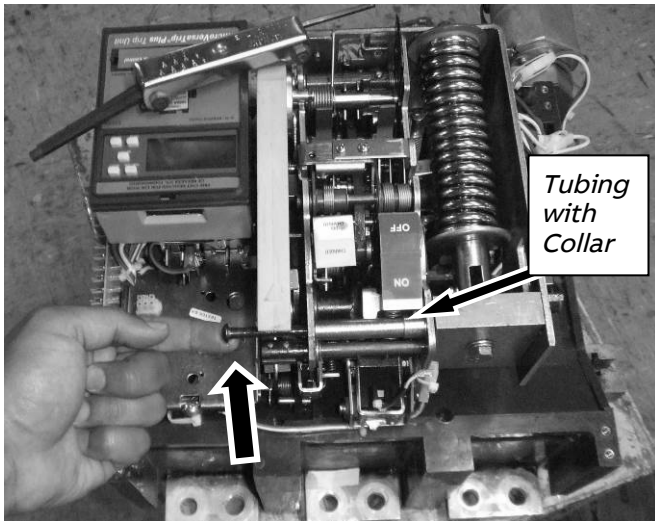

Figure 15: Allen Screw to be loosened for Stop Block Removal
13. Using the supplied $\frac{5}{32}$ Allen Wrench [6], unscrew the long bolt (BH HEX SKT $\frac{1}{4}$ -20 X 3.56 SCREW) located on the structure as seen in Figure 15 from the stop block but it is not necessary to fully remove from the Spacer Side Frame Pin tubing with collar that it passes through.
16. Screw in the long bolt as seen in Figure 15 with a $\frac{5}{32}$ Allen Wrench [6] to 90 inch-pounds min., and secure the Shunt Trip guide casing and unit back into place.